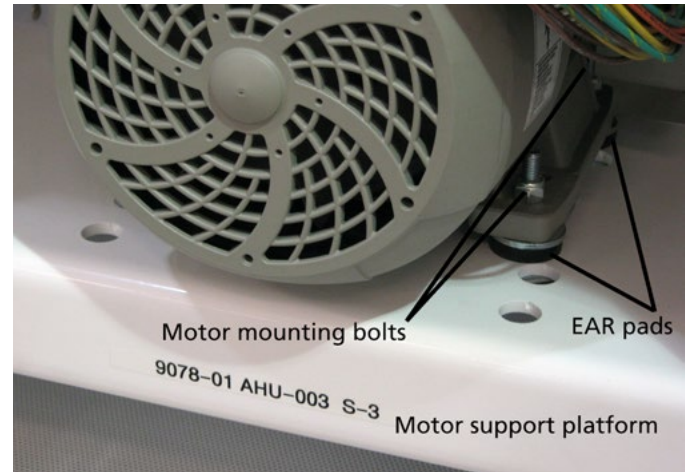

Figure 20: Remove motor retaining bolts; do not lose rubber isolator pads (if provided).
7. If needed, the motor may now be removed for service by removing all (four) 3/8" motor retaining nuts and bolts. Be sure to mark the motor base pattern and bolt holes used on the motor pedestal. Rubber isolator pads between the motor base and the pedestal are optional and if supplied be sure not to lose them (see Figure 20). If the motor is to be replaced, make sure to remove the shaft grounding ring off the front of the motor that is being replaced. Install the shaft grounding ring onto the new motor by drilling and taping mounting holes. Use a 7/64" or a #35 drill bit and #6-32 tap. Clean away any chips and shavings before installing the shaft grounding ring.